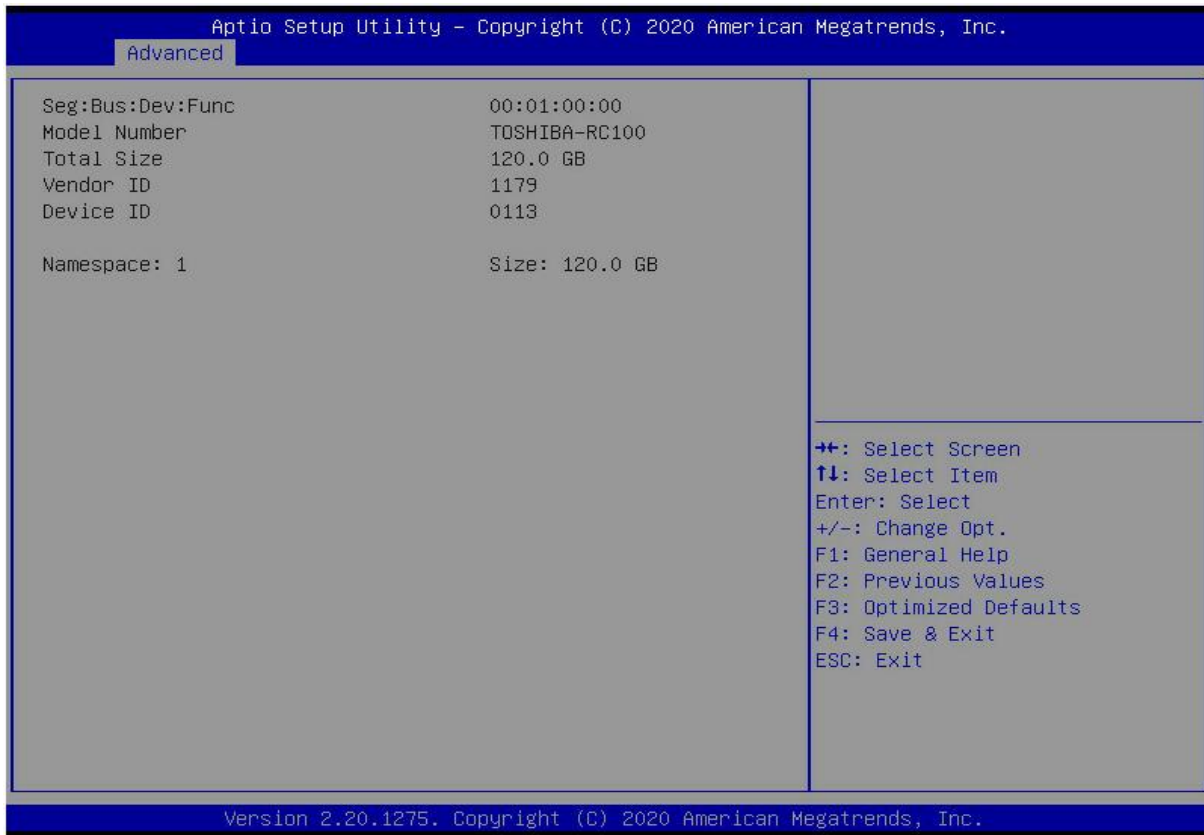

Figure 5- 12
5.2.12 NVMe Configuration*Figure 5- 11*